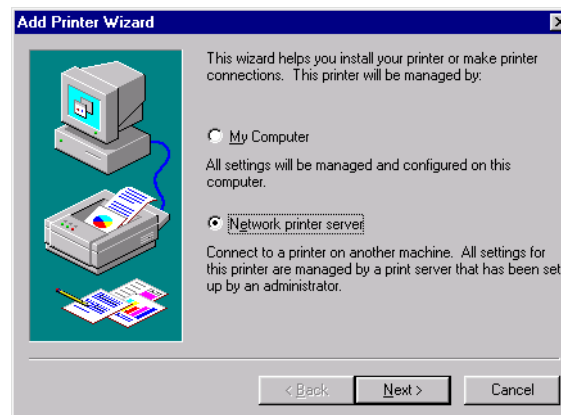

Figure B-15: Adding a Network Printer
1. Select the Network printer server option and click Next (Figure B-15).